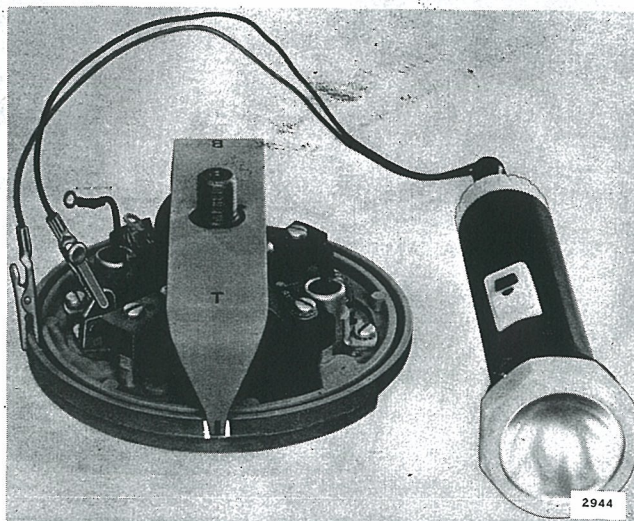

Figure 4-20. Connections for Checking Timing
b. Disconnect all leads from breaker point assemblies. Connect meter or test light between breaker plate and forward breaker point screw terminal. See Figure 4-20.